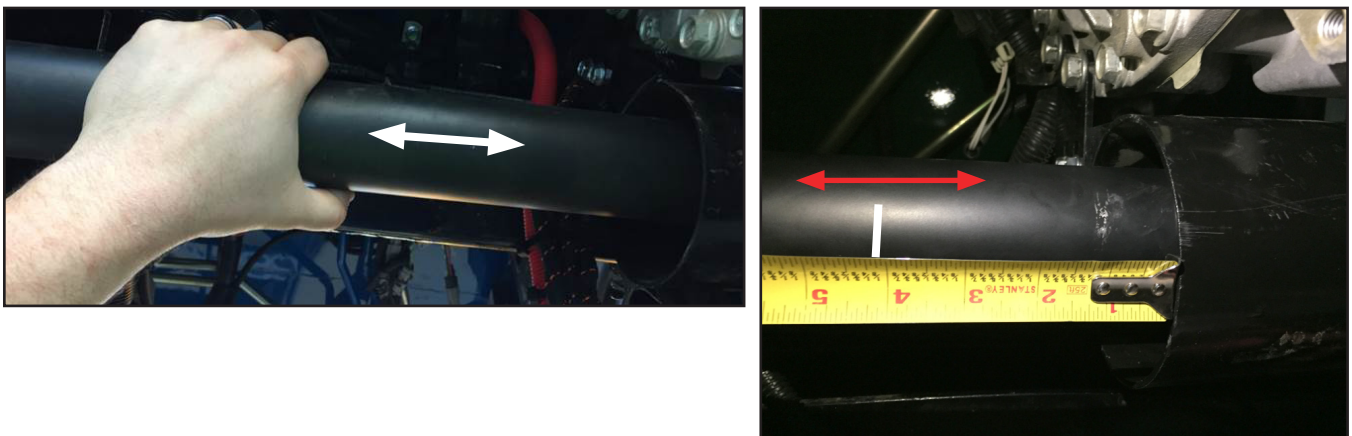

Figure 5
- Using your hand, move the shaft in one direction and check that it moves 3/8" to 1/2" from the mark (Figure 5). Repeat in the other direction. **NOTE:** Shaft should move back and forth a total of 3/4" to 1".